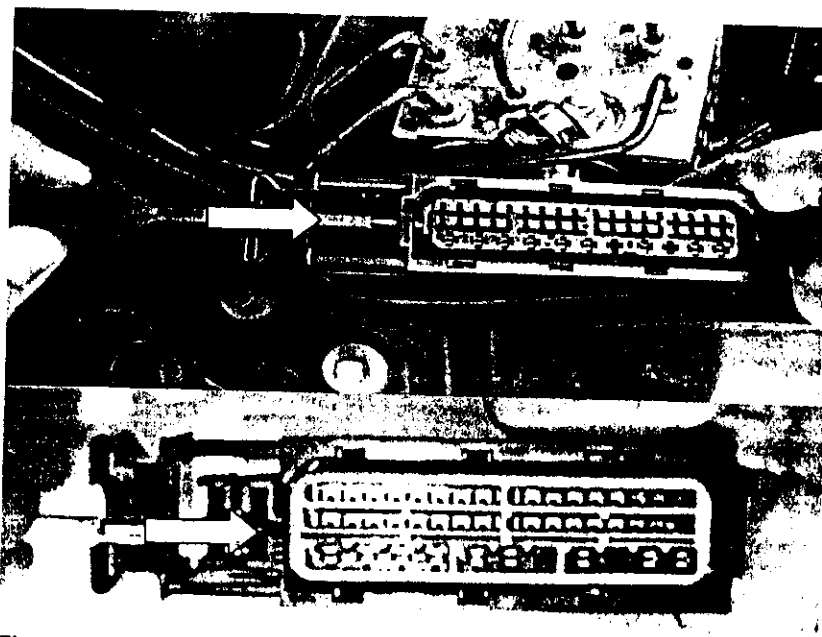

Figure 10: Closing the secondary lock
13. Close the gray contact strip secondary lock of the SBC connector housing. To do this, slide the gray secondary lock in the direction indicated by the arrow using a small screwdriver (Figure 10).